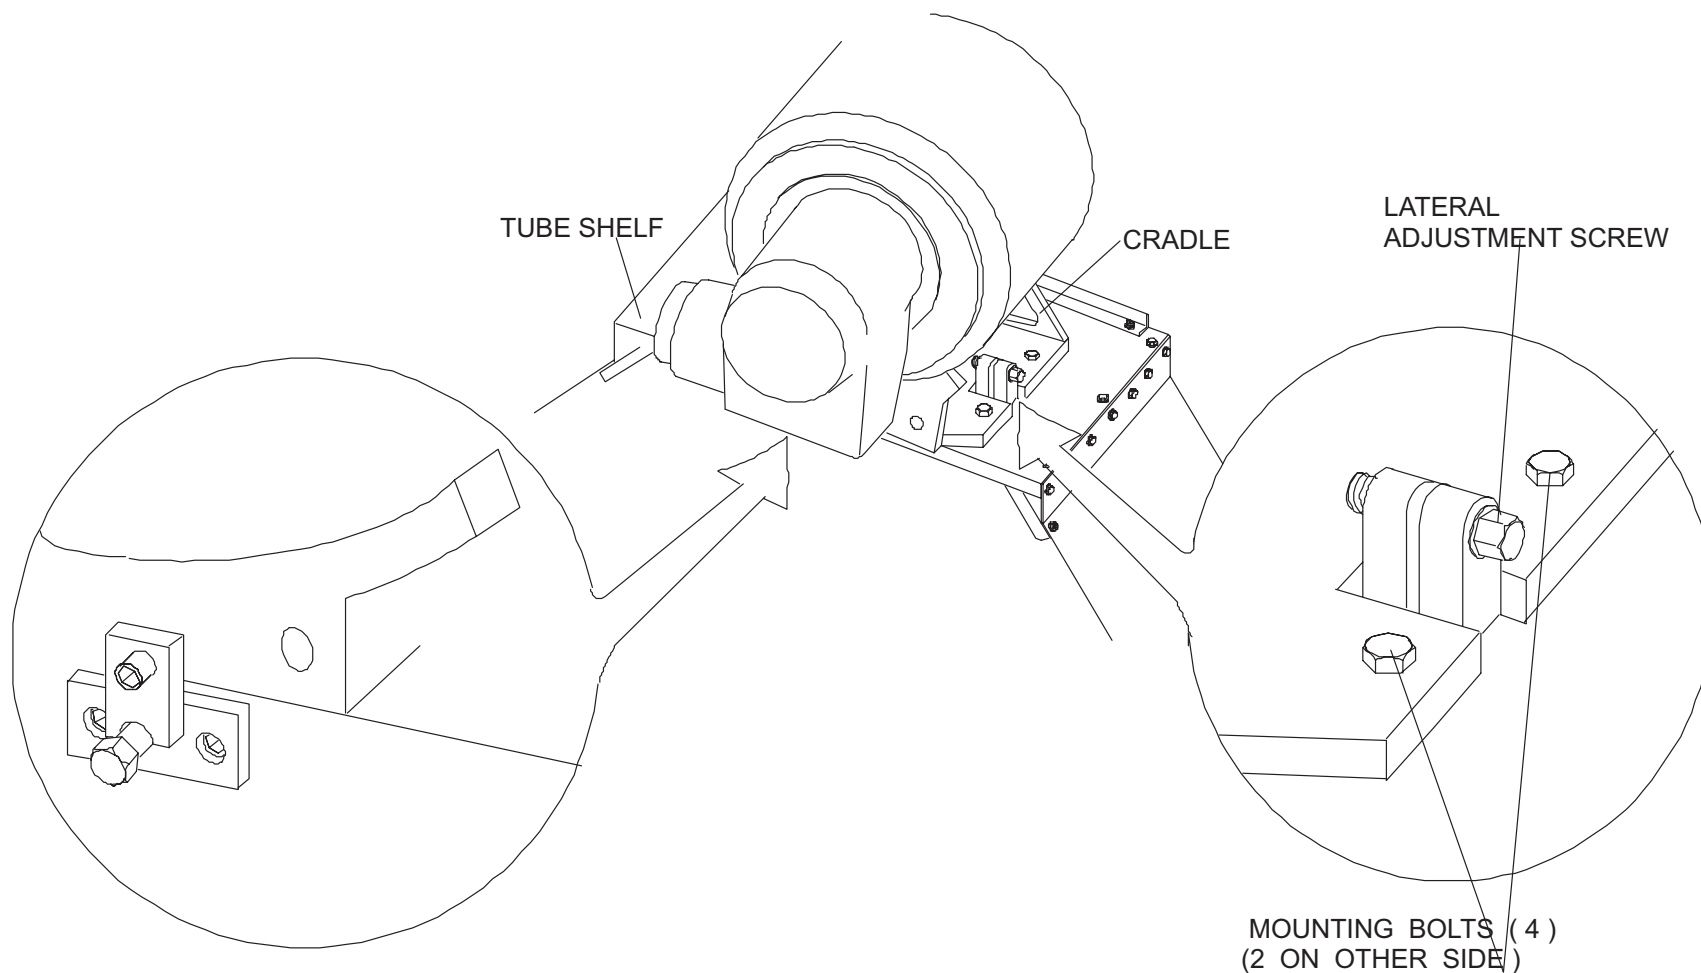

FIGURE 67 X-RAY TUBE ALIGNMENT
4. Loosen the four tube cradle mounting bolts but do not remove them. Carefully turn the lateral adjustment screw until the hash mark on the cradle lines up with the hash mark on the base plate. See Figure 67.